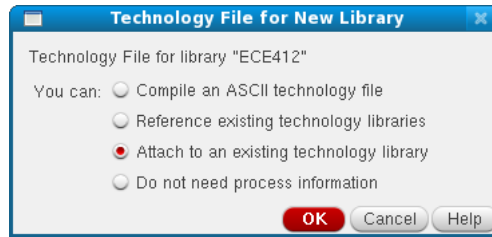

Figure 1: Technology File for New Library
- You will be asked to choose a Technology file for the new library. Select “Attach to an existing technology library” as seen in figure 1 then hit OK